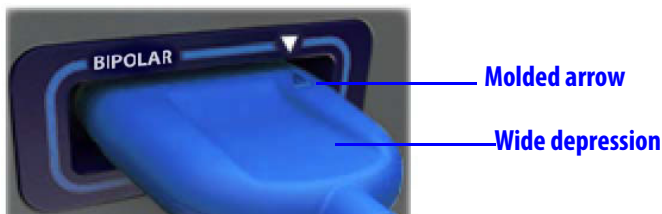

Figure 8.21 Correct orientation of the connector with molded arrow facing up
2. **Correctly orient the wide connector:** The wide depression in the connector and the molded arrow should be facing up when installing the cable into the VIO dV port (Figure 8.21).
3. **Connect the energy cord to the VIO dV port:** Push the connector into the bipolar port until it cannot be pushed further and is fully seated (Figure 8.21).